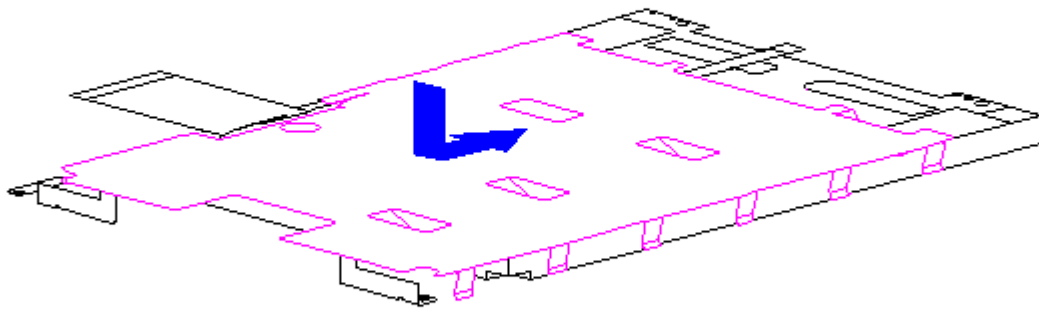

Figure 3-153. Placing the Display Shield on the CSTN (10.4 inch) Panel (Models 420 and 430)
4. Slightly lift the tabs on the left side of the display shield and slide the shield onto the CSTN (10.4 inch) panel. Ensure that the LIF connector end of the display cable is exposed on the right side of the CSTN (10.4 inch) panel (Figure 3-153).